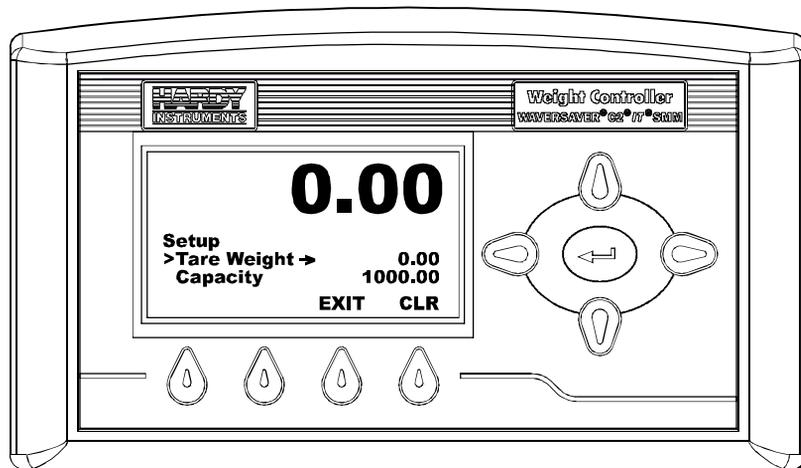

FIG. 82 SETUP MENU/SELECTING TARE WEIGHT
Step 1. Press the Down Arrow button until the cursor is in front of Tare Weight. (See Fig. 82) The present Tare Weight value is displayed.